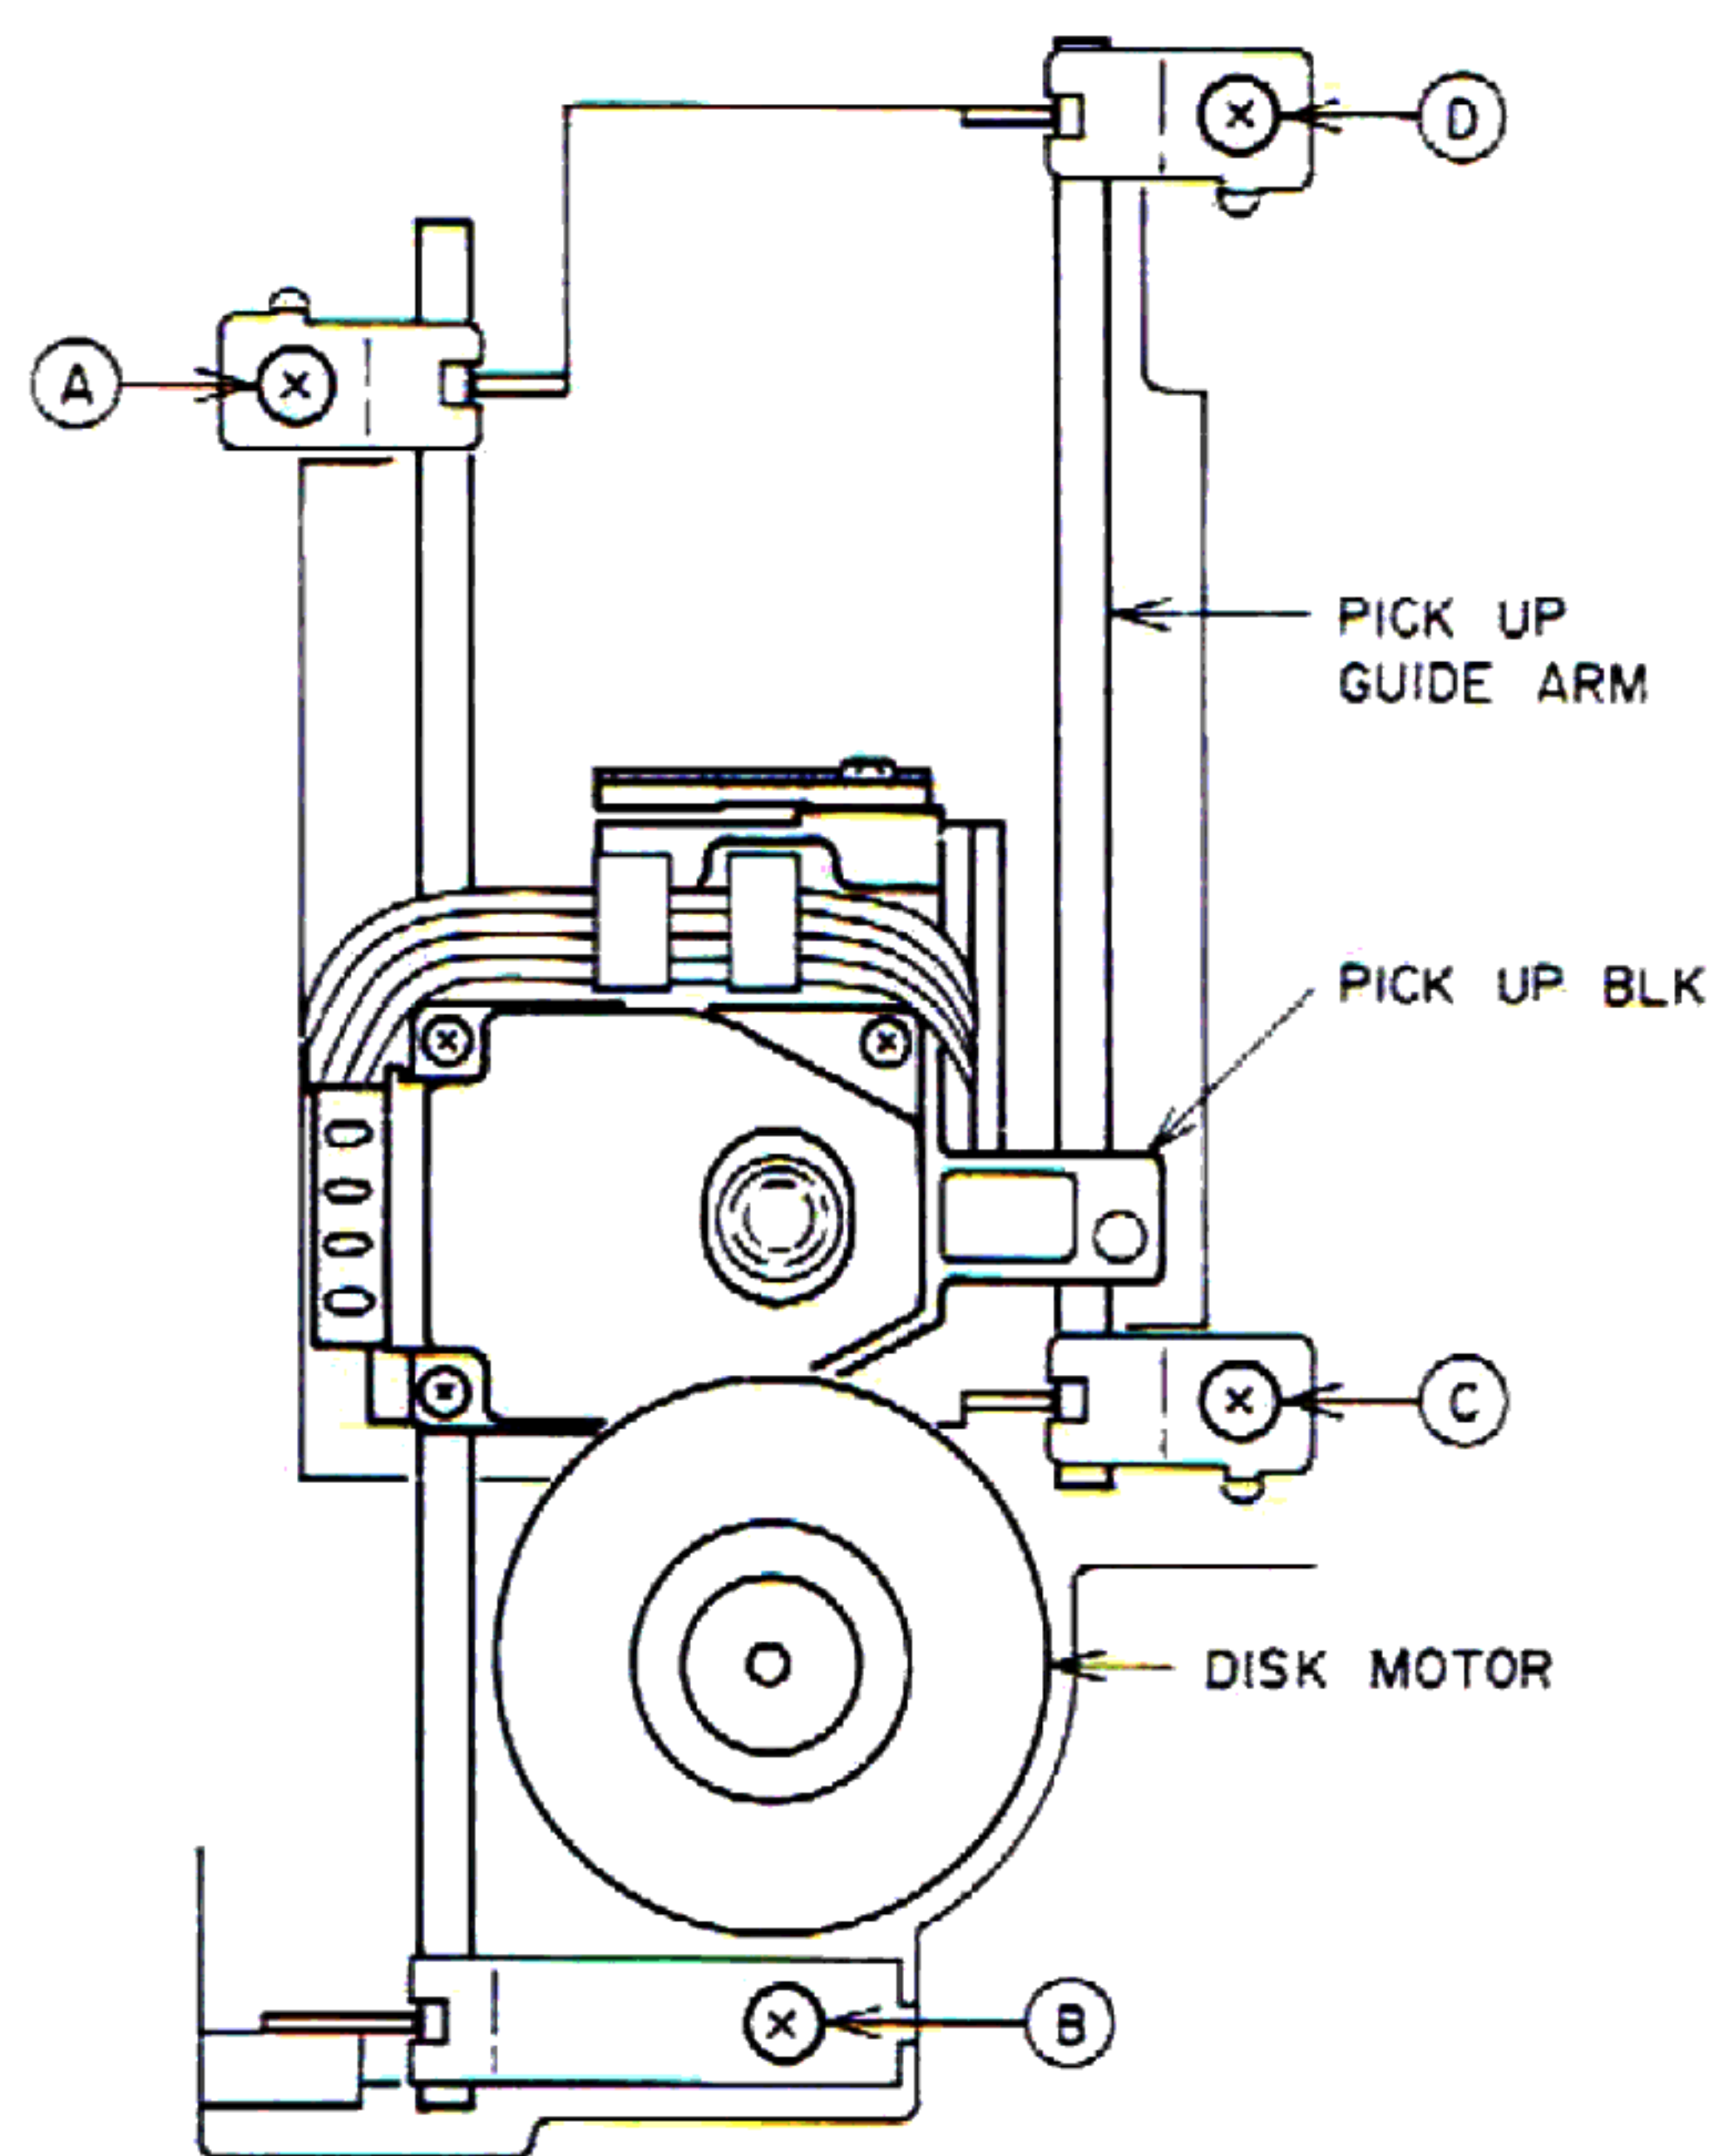

Fig. 4-4
- 7) When the four screws (A), (B), (C) and (D), for the metal fittings of the pick-up guide rail are removed, the pick-up block guid rail can be removed. (Refer to Fig. 4-4)